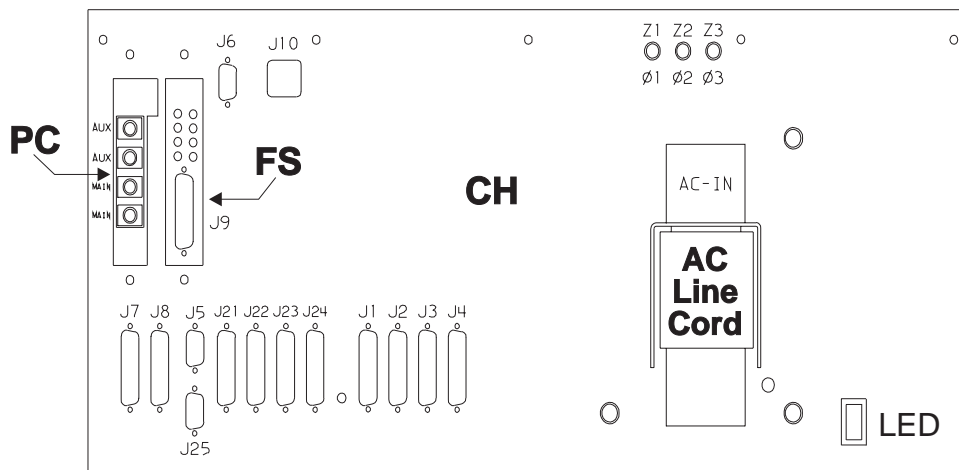

Figure 1-17. Rear view of the 3.5 kW Scalable Electrical Power Base Unit
1. 3.5 kW module (see Figure 1-17 on page 1-67)